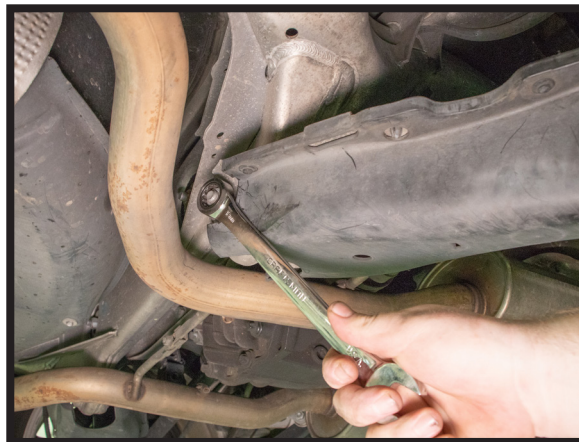

FIGURE 33
6. RETIGHTEN THE INNER SUSPENSION ARM NUT AND TIGHTEN TO MANUFACTURER'S SPECIFICATIONS. (FIGURE 33)